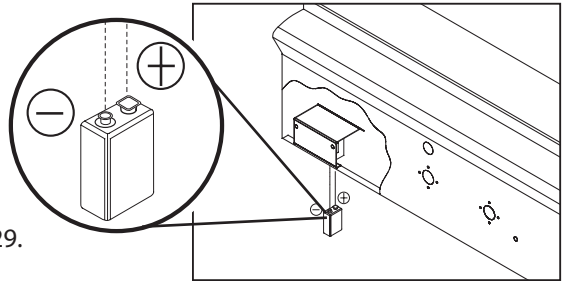
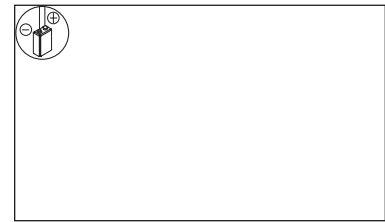

FIG. 28
FIG. 29
4. Re-install upward and push to snap - Fig. 29. (Polarity as shown in Fig. 28).